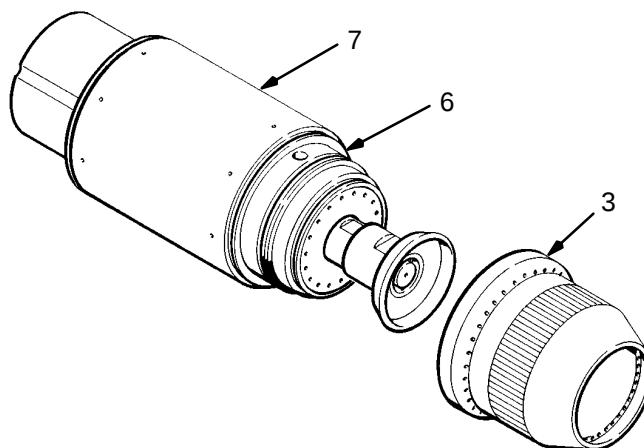
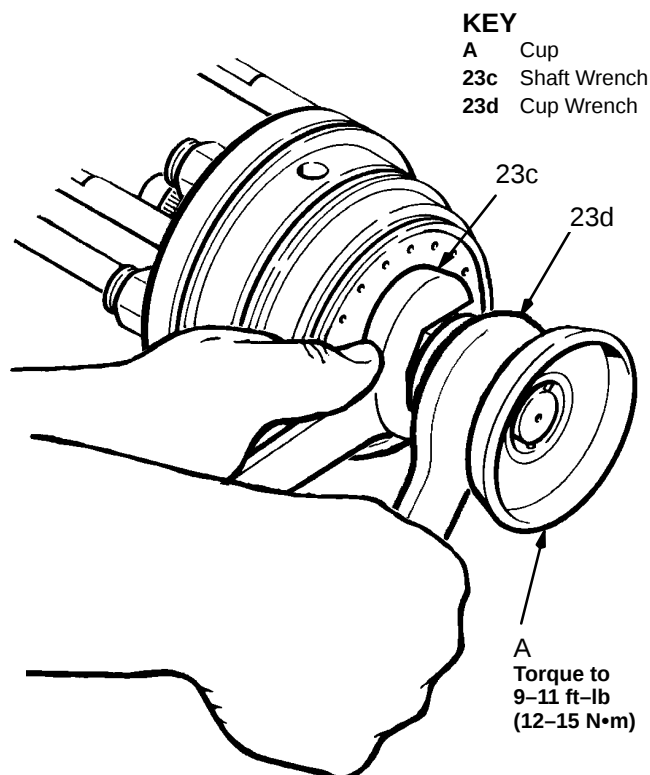

Fig 10
Fig 11
1. Remove the shaping air shroud (3) and service cover (7). See Fig 10.
1. Unscrew the shaping air shroud (3). See Fig 10.
2. Slide the service cover (7) off the atomizer.
3. Hold the bearing assembly shaft with the wrench (23c), while removing the cup (A) with the cup wrench (23d). See Fig 11. Turn the cup *counterclockwise*. Set the cup onto a soft surface to help avoid scratching or nicking its surface.
9. Slide the service cover (7) over the atomizer assembly and down against the end mount o-ring (15). See Fig 10.
10. Screw the shaping air shroud (3) onto the manifold (6). Tighten until it bottoms. Check the service cover (7) for looseness. If loose, the shaping air shroud may not be tight enough or the end mount o-ring (15) might need replacement.
9. Hold the bearing assembly shaft with the wrench (23c), while installing the cup (A) with the cup wrench (23d). Turn the cup *clockwise* and torque to 9–11 ft-lb (12–15 N•m). See Fig 11.
10. Slide service cover (7) over atomizer assembly and down against the end mount o-ring (15). See Fig 10.